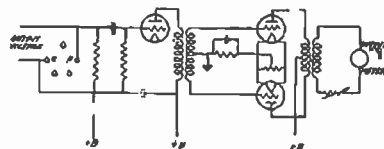
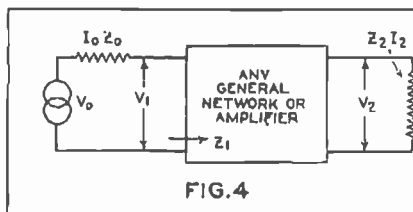

Fig. 1. Circuit for test.
FIG. 4
Fig. 1 shows the schematic diagram of the circuit connections used to determine the relation between the power output and the audio-frequency voltage. This method may be applied to any particular audio amplifier. The detector tube is removed and the input voltage is applied directly across the resistance,  $R$ . It is to be noted, except as to frequency discrimination, the value of  $R$  makes no difference as the power output is found for the actual voltage in the detector plate which value of voltage is found from the rectification diagram. In case a transformer is used a resistance must be used in series with the primary to simulate the tube resistance. A direct current should also be sent through the primary. In this case the relation will be between the voltage introduced internally in the detector and
The effect of the ideal transformer can be more easily visualized by first considering the simple series circuit of Fig. 1. This shows a generator of voltage  $V_1$  and internal resistance  $r_1$ , delivering power to a load  $r_2$ . The current in the load and the power delivered to it are given by
to the load being  $P_2$  on inserting an ideal transformer the power in the load will increase to  $P_{2,max}$ . The loss in the circuit of Fig. 1, expressed in decibels, is given by (6) and is known as the transformer loss. This is the loss which is due to the impedance "mis-match" between the source of power and the load. The expression (3), from which (6) was derived, is the square of what is known as the reflection factor. Thus, the reflection factor existing between the two impedances  $r_1$  and  $r_2$ , is
can be applied to a complicated section of a transmission line, or to an amplifier. So far we have considered only a simple series circuit such as shown in Fig. 1. Now consider Fig. 4. A generator whose voltage is  $V_0$  and whose internal impedance is  $Z_0$ , feeds into a network whose input impedance is  $Z_1$ . This network delivers power to a load impedance  $Z_2$ . The voltage at the input of the network is  $V_1$ , and at the
For the particular case where the network of Fig. 4 is an amplifier, the input to the amplifier is usually a transformer (see Fig. 6). Moreover,